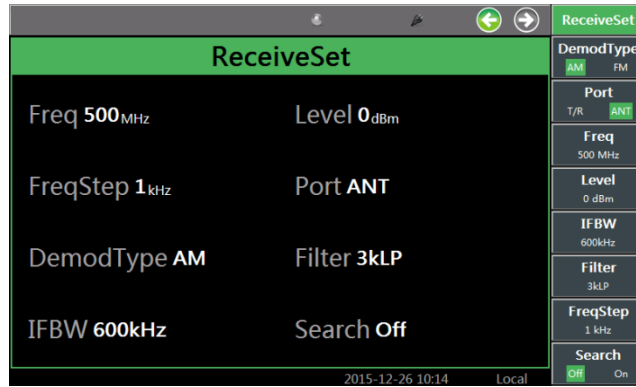

Fig. 4-6 Receiver Setting Window
- Receiver setting: when the RF meter window is opened, the receiver setting window will pop up at the same time. Click the interface or right soft key menu, and set the receiver port, frequency, reference level, IF bandwidth, automatic search, etc. The receiver setting window is shown in Fig. 4-6.